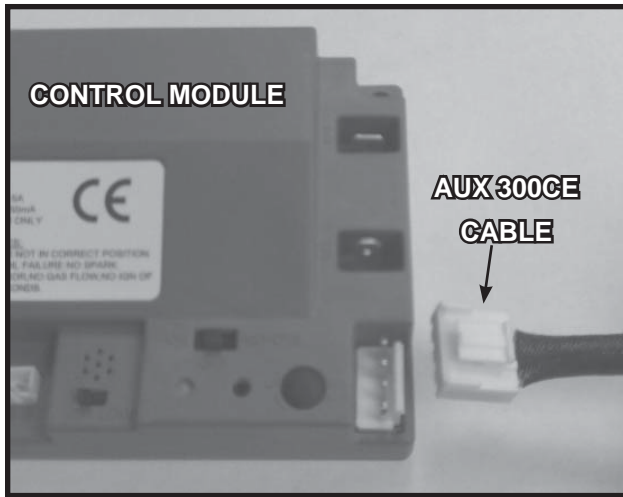

Figure 44. AUX 300 module installation
- Insert the 4 hole harness from the AUX300CE module into the 4 pin plug on the control module. See Figure 44.